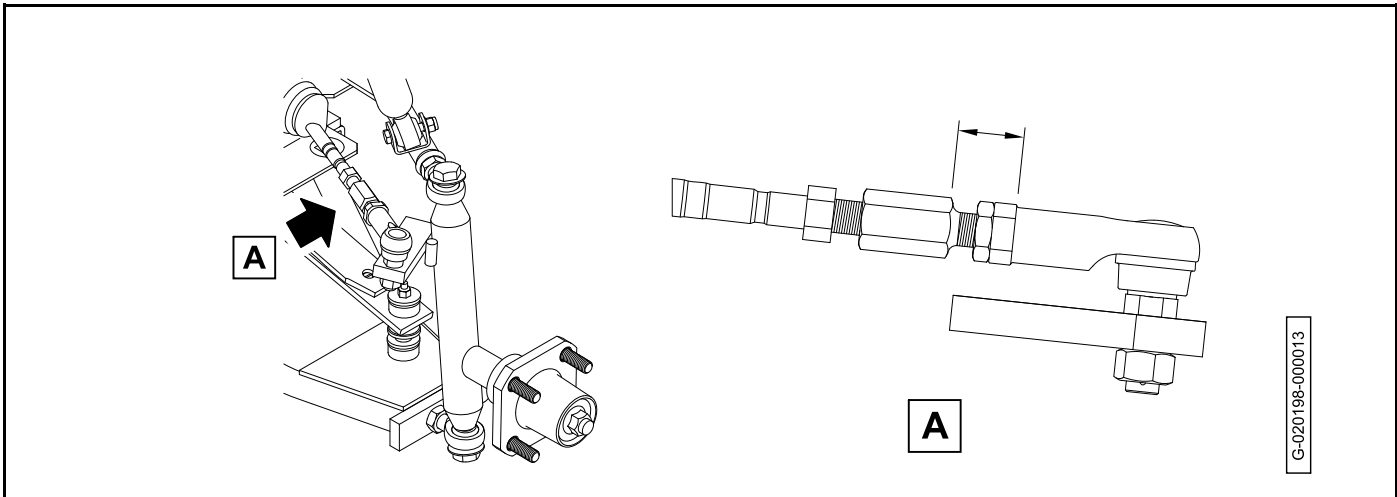

Figure 7-20
7. Rotate both of the tie rods equally. To increase the toe-in, rotate both tie rods clockwise. To decrease the toe-in, rotate both tie rods counterclockwise. Maintain an equal distance from the ball joint to the end of the threads on each tie rod (**Figure 7-20, Page 7-16**). Snug hardware but do not torque until alignment is complete.